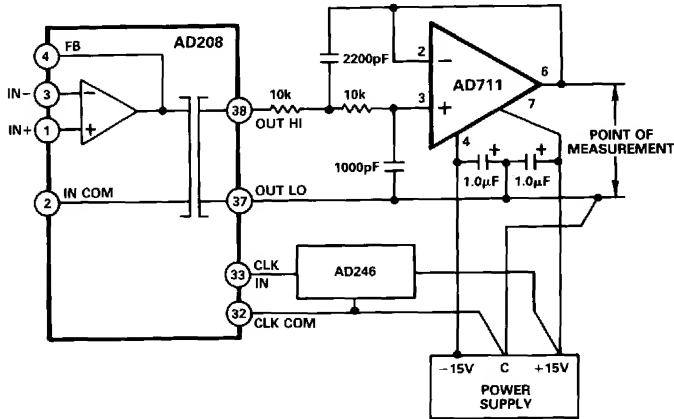

Figure 30. Output Filter Circuit Showing Proper Grounding
**Output Filter Circuit.** Except at the highest useful gains, the noise seen at the output of the AD208 will be almost entirely comprised of the carrier ripple at multiples of 25 kHz. The ripple, when measured over a 100 kHz noise bandwidth, is typically 2 mV pk-pk near zero output and increases to approximately 7 mV pk-pk for outputs of  $\pm 5$  V. The simple two-pole, 5 kHz low-pass Butterworth filter of Figure 30 can be used to reduce the output ripple of the AD208 to approximately 0.1 mV pk-pk and serve as an output buffer for the AD208.
An output buffer or filter may sometimes exhibit voltage spikes on the output even though none were present on the input signal to the buffer/filter. These spikes are usually due to clock noise appearing at the op amp's power supply pins, since most op amps have little or no supply rejection at high frequencies. Another common source of clock-related noise is from the sharing of the ground track by both the output circuit and the power input. The circuit of Figure 30, shows how to avoid these clock noise related problems.
Ideally, the output signal LO lead and the supply common should be tied together at the final signal measurement point as indicated in Figure 30. It may be useful to bypass the output LO to the output common with a 0.1  $\mu$ F capacitor should the measurement point be more than a few feet from the isolator.